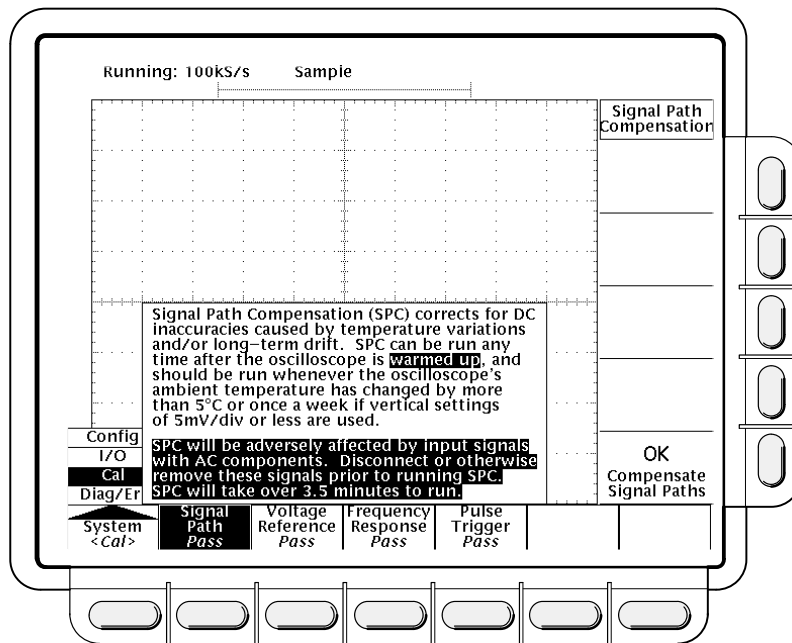

Figure 3-53: Performing a Signal Path Compensation
5. Verify the word **Pass** appears under **Signal Path** in the main menu. (See Figure 3-53.)